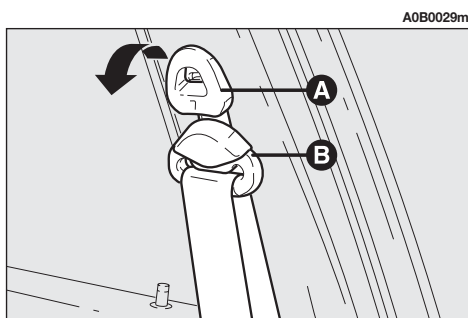
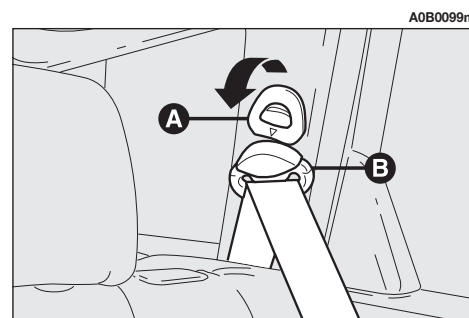

fig. 50
fig. 51
To adjust the seat belt, raise or lower the anchoring device grip (A-fig. 50) of the front (A-fig. 51) or side rear seat belts (Sportwagon versions only), and move at the same time the ring (B) to the most suitable of the set positions.
*After adjustment, always check that the slider (B) is anchored in one of the positions provided. To do this, with the button (A-fig. 50) or (A-fig. 51) released, exert a further pressure to allow the anchor device to catch if release did not take place at one of the preset positions.*